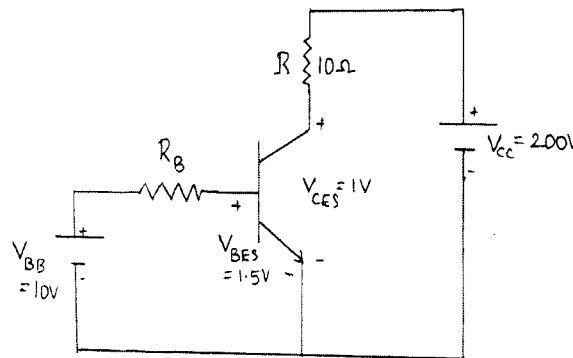

Fig Q2(c) (06 Marks)
- c. A transistor switch of Fig Q2(c) has  $\beta$  in the rang of 8 to 40. Calculate :